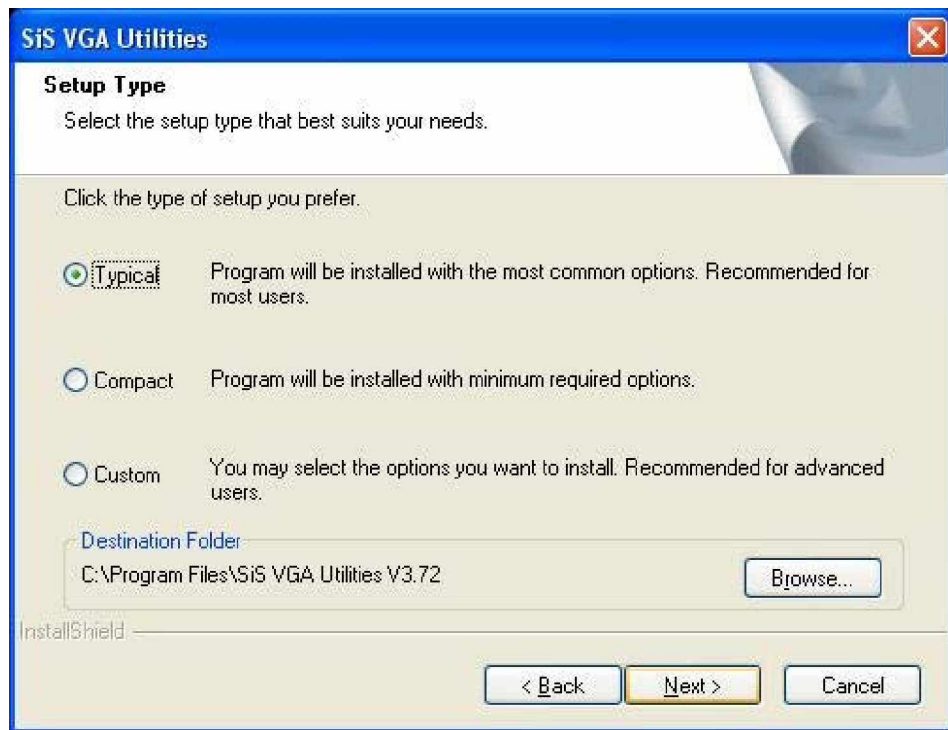

Figure 6-14: Select Setup Installation Type
- Step 3:** Select the setup type (see **Figure 6-14**). Once the setup type is selected, click on the **NEXT** button in the setup type menu (see **Figure 6-14**).